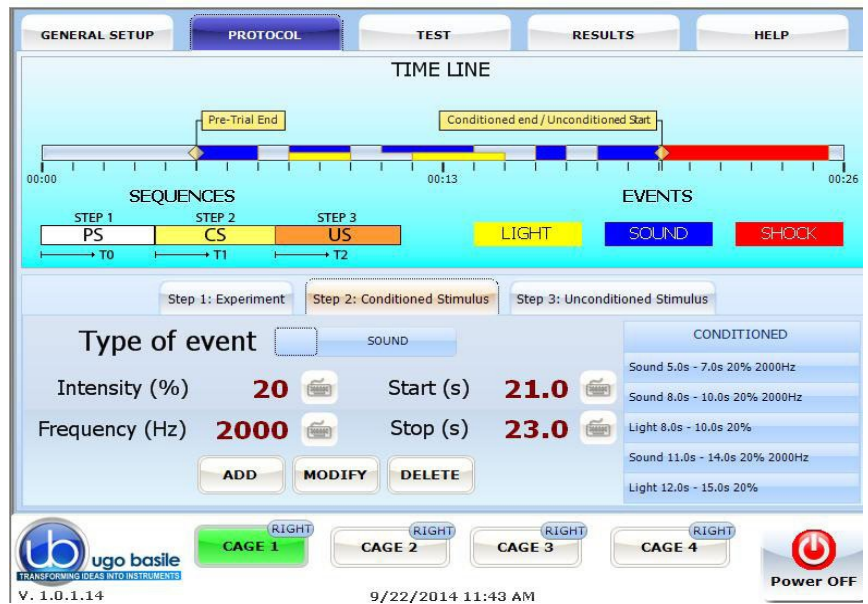

Figure 4 "Timeline"
- **green** for cage 1 (see Figure 4)